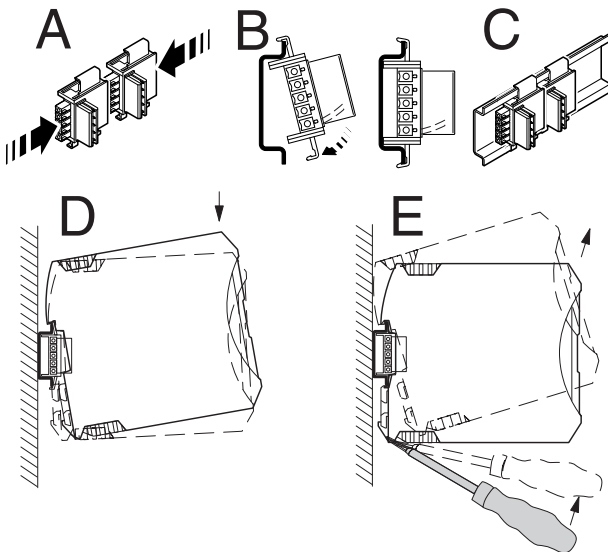

Figure 5 Mounting and removing
- When using the DIN rail connector, first insert it in the 35 mm DIN rail according to EN 60715 (see Figure 5, A - C). The DIN rail connector is used to bridge the power supply and communication.